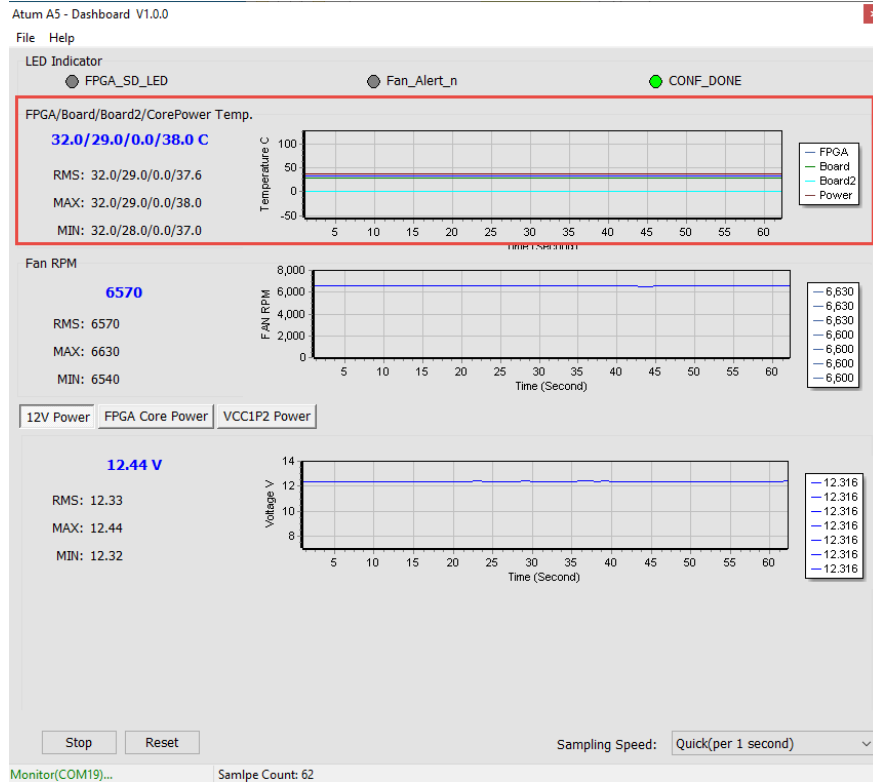

Figure 3-9 Temperature section
- **FPGA/Board/Board2/CorePower Temp.:** The Dashboard GUI will real-time show the fan speed, Atum A5 board ambient and FPGA temperature. Users can know the board temperature in time. The information will be refreshed per 1 second, and displays through diagram and number, as shown in **Figure 3-9**. **Figure 3-10** shows the location of the two temperature sensors of **Board** and **Board2** on the GUI.